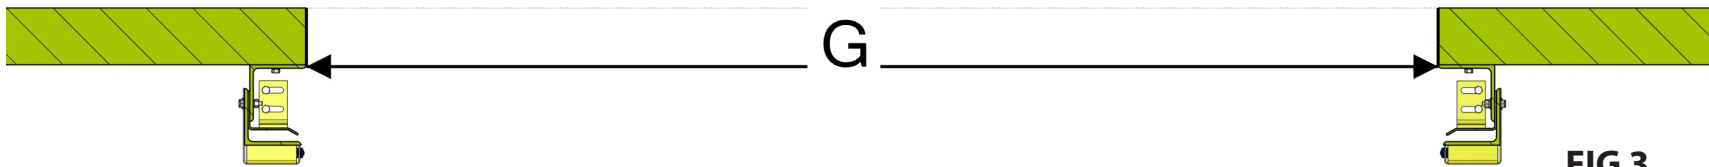

FIG 3
- Does the "G" dimension on your "DOOR INSTALLATION DATA" sheet match your opening width. See **FIG 3**.
- Check "G" Dimension as illustrated in **FIG 3** on page 7. "G" Dimension must match your "DOOR INSTALLATION DATA" sheet.